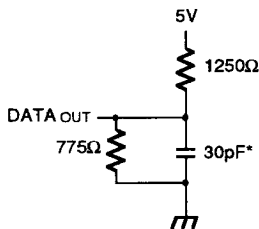

Figure 1. Output Load
Output Load	See Figures 1, 2 & 3
1. Transition is measured $\pm 500\text{mV}$ from low or high impedance voltage with load (Figures 1, 2 and 3).